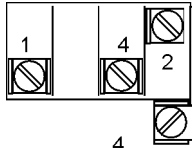

Fig. 1
- Standard versions: Use figure 1